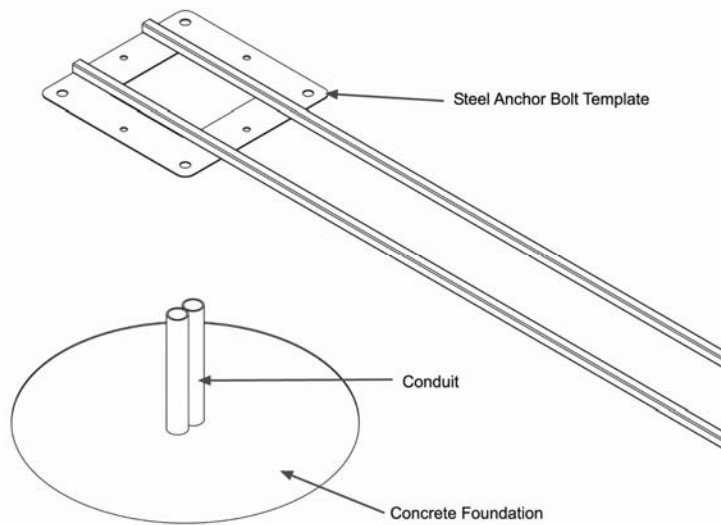

FIGURE 4.1
- Place the steel anchor bolt template on the prepared foundations (See figure 4.1) making sure that the template is centered on the foundations. If the SpeedGate is being installed near a wall, object or pre-existing opening make sure that each side of the template is the same distance from the wall, object or pre-existing opening. See SpeedGate site specific drawings that are provided by WALLACE INTERNATIONAL for exact dimensions of the gate foundations.